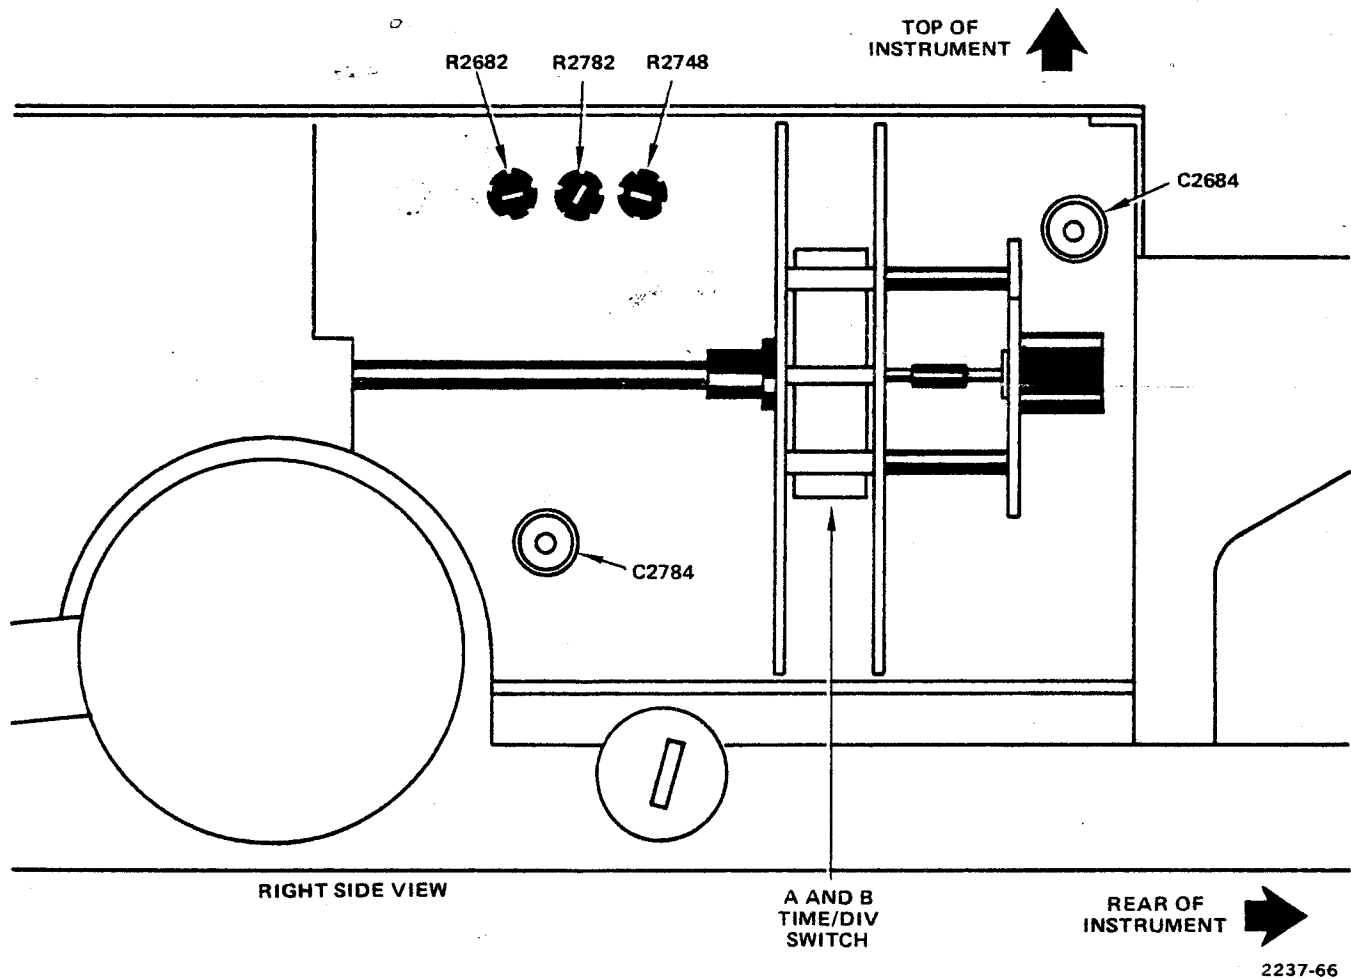

Figure 5-23. Sweep adjustment locations.
(2) Set time mark generator for one millisecond time markers.
(3) Set horizontal POSITION to align the first time marker with the left graticule line.
(4) Adjust R2782 for one time marker per division.
(5) Continue to the next procedure.
**s. .5  $\mu$ s Timing (Figure 5-23).**
(1) Set A TIME/DIV to .5  $\mu$ s and HORIZ DISPLAY to A.
(2) Set time mark generator for 0.5 microsecond time markers.
(3) Adjust C2784 for one time marker per division.
(4) Set HORIZ DISPLAY to B DLY'D.
(5) Set DELAY TIME POS to 1.00, then rotate it toward 0.0 until there is one time marker per division and a time marker is aligned with the left vertical graticule line.
(6) Adjust C2684 for one time marker per division.
(7) Set B TIME/DIV to .05  $\mu$ s and DELAY TIME POS to 1.00.
(8) Adjust horizontal POSITION and align the time marker with the center vertical graticule line.
(9) Set DELAY TIME POS to 9.00.
*R2932 and horizontal POSITION may interact; therefore, repeat steps (1) through (4) until no further adjustment of R2932 is needed.*
**r. B Sweep Timing (Figure 5-23).**
(9) Set B COUPLING to DC.
(10) Adjust B TRIGGER LEVEL CENTERING, R2615 for a stable display.
*B LEVEL and R2615 may interact with each other; therefore, repeat steps (2) through (5) until no further adjustment of R2615 is needed.*
(11) Disconnect the sine wave generator.
**o. Sweep Start-Stop (Figure 5-23).**
(1) Set controls as follows: